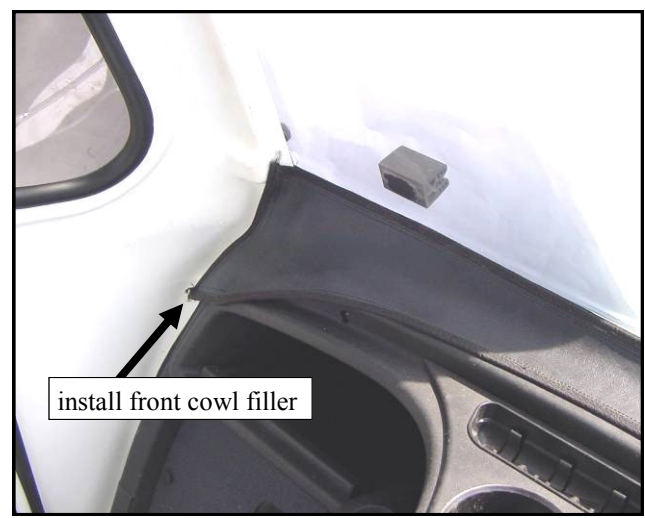

Fig. 3.5 (view from right side)
3.5 Per fig. 3.5, install the fabric front cowl filler to the newly installed hook velcro as shown.